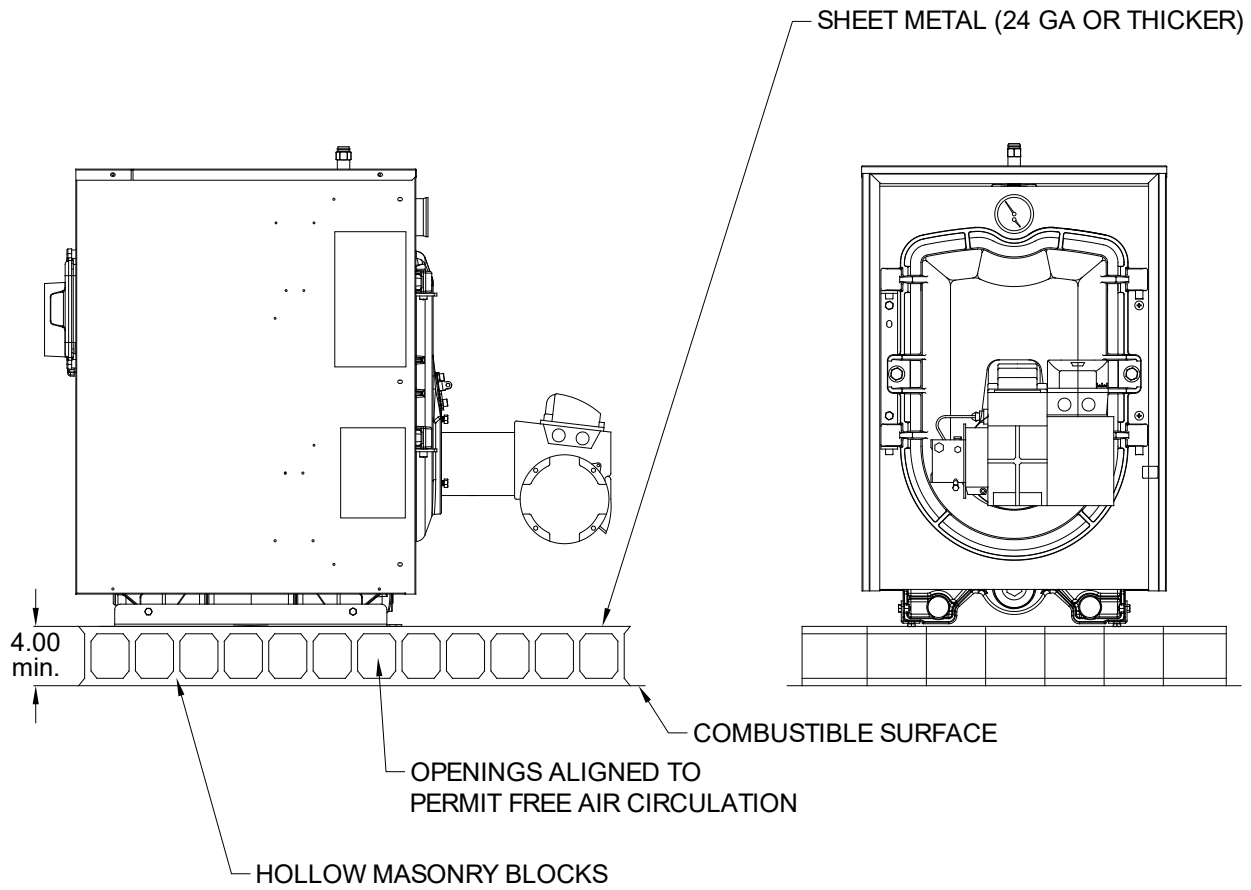

Figure 2-2: Installation Over a Combustible Floor
- Do not install this boiler directly on a combustible surface. Where it is desired to install this boiler over a non-carpeted combustible surface, install the boiler on the base. See Figure 2-2.